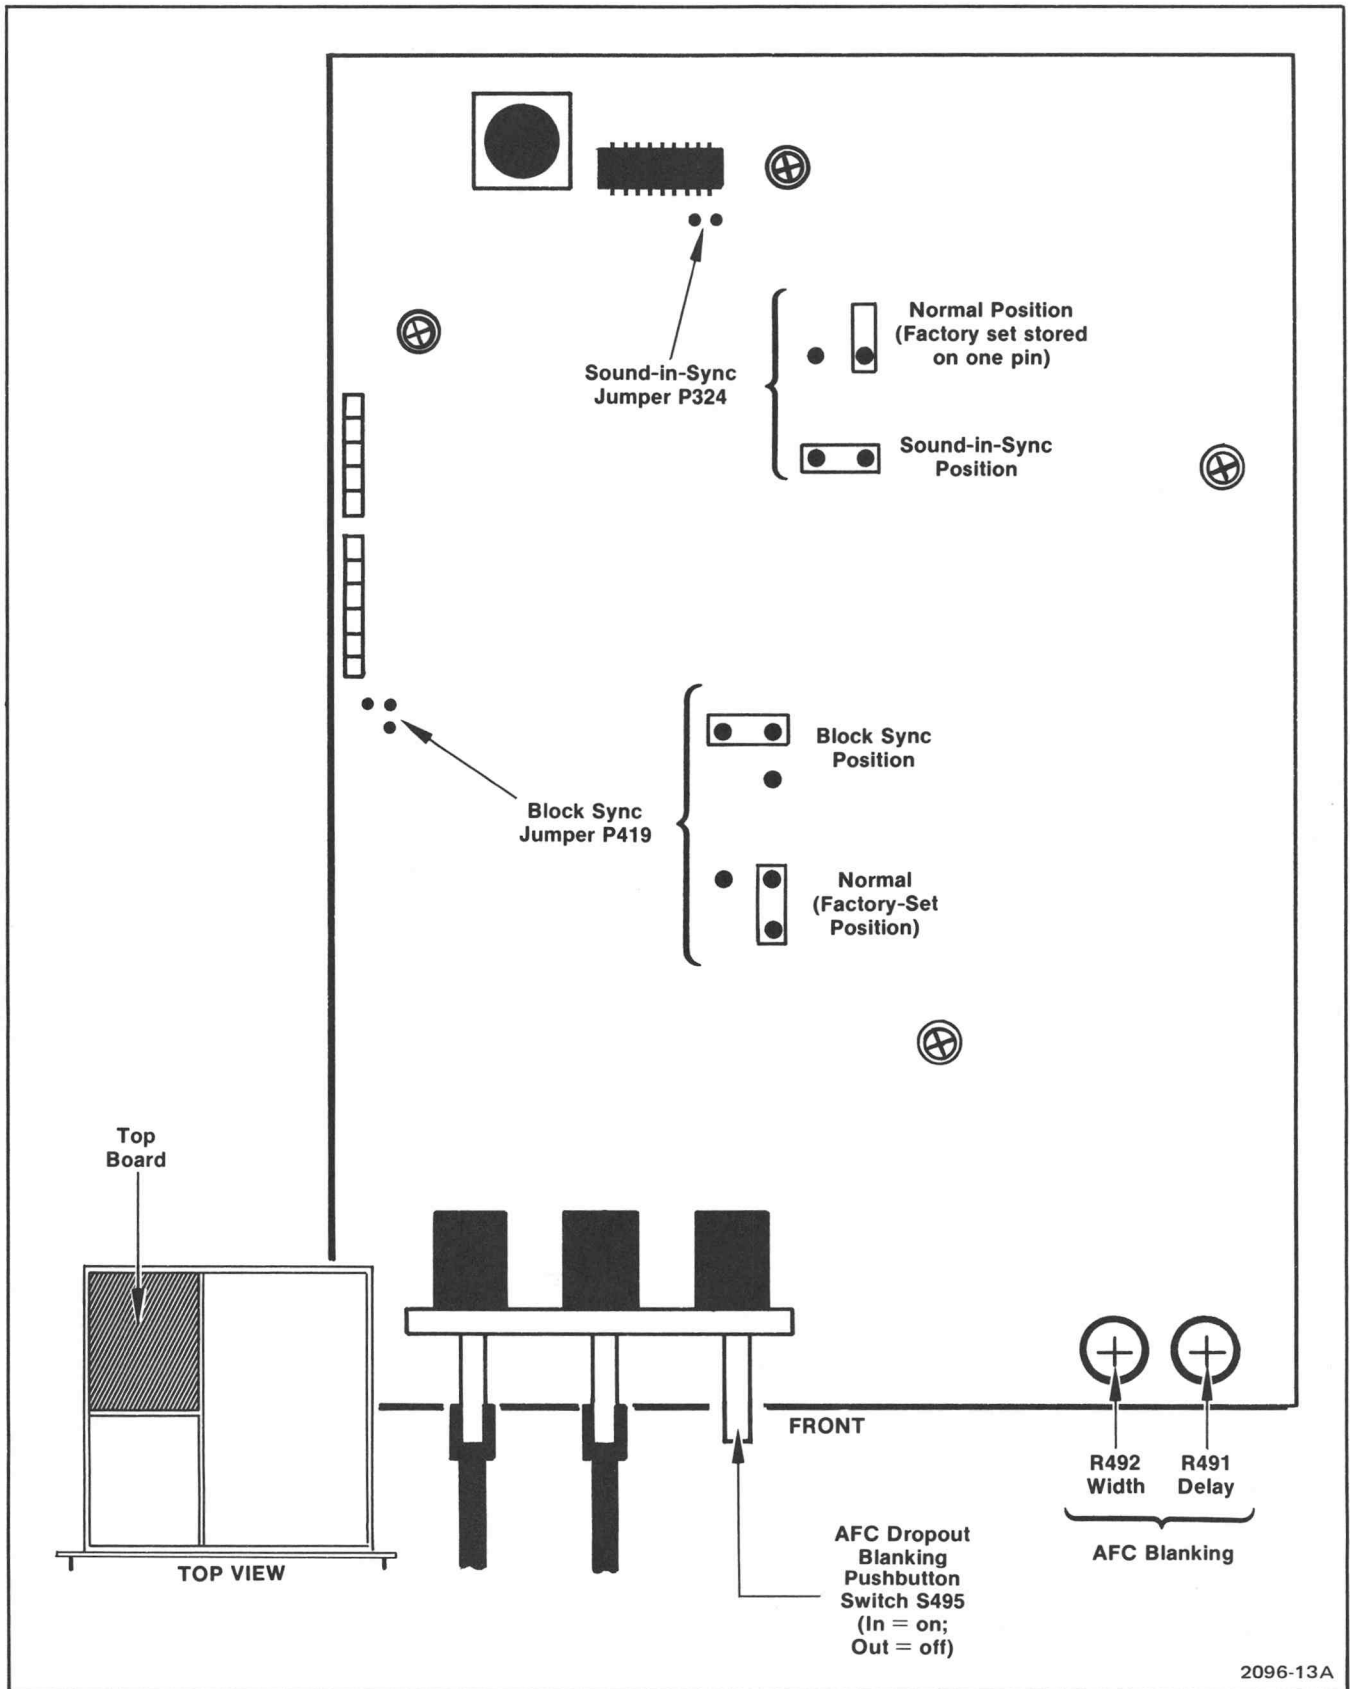

Fig. 4-2. A3 Gen Lock circuit board showing jumper and adjustment locations.
1a. VTR's with Head Dropout. The instrument is shipped with internal AFC Dropout Blanking switch S495 set to the Off (out) position to satisfy most gen lock applications. However, in a situation where the 1474 is gen locked to a VTR that is generating noise during the head dropout interval, the picture monitor display may have horizontal sync jitter at the top or bottom of the picture. A more stable display may be obtained by setting the AFC Dropout Blanking switch (see Fig. 4-2) to the On (pressed in) position.
The AFC Blanking Delay adjustment, R491 (see Fig. 4-2), has a range that moves the dropout blanking interval from a position before vertical sync to a position at the start of the active lines, or any position between these two areas. The AFC Blanking Width adjustment, R492, has a range that changes the width of the dropout gate from approximately 4 horizontal lines minimum to approximately 14 horizontal lines maximum. Go to step 3 in the Adjustment Procedure in Section 6.
1b. VTR's with Block Sync and Head Dropout. To gen lock the 1474 to VTR's with block sync and head dropout, move the Block Sync Jumper, P419, from its Normal (factory-set) position to the Block Sync position as shown in Fig. 4-2. Also, use the information given previously in part 1a, VTR's with Head Dropout.
2. Gen Locking to Sound-in-Sync Signals. The 1474 Generator will gen lock to sound-in-sync composite video signals if the Sound-in-Sync Jumper P324 is moved to the Sound-in-Sync position as shown in Fig. 4-2.